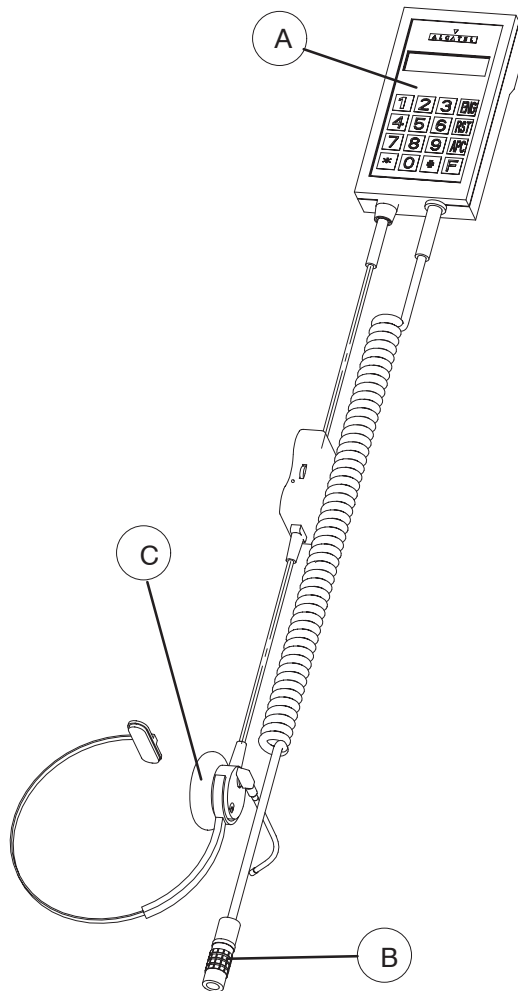

Fig. 44. Portable service kit (PSK) assembly view
As shown in Fig. 44. herebelow, it is composed by a:
- (B) LEMO connector, to connect, if necessary, the **PSK's connector LEMO (B)** (see Fig. 44. on page 121)
- banana plugs (C) and (D) : output is a 0 to +3V dc voltage proportional to the radio Rx field. During equipment line-up, through a multi-meter it is possible to easily point the antenna until the measured voltage is the maximum, corresponding to the maximum radio Rx field. Actual Rx field value can be measured through PSK (see para.2-6.2.3 on page 123) or by means of the Craft Terminal (see CT Operator's Handbook).